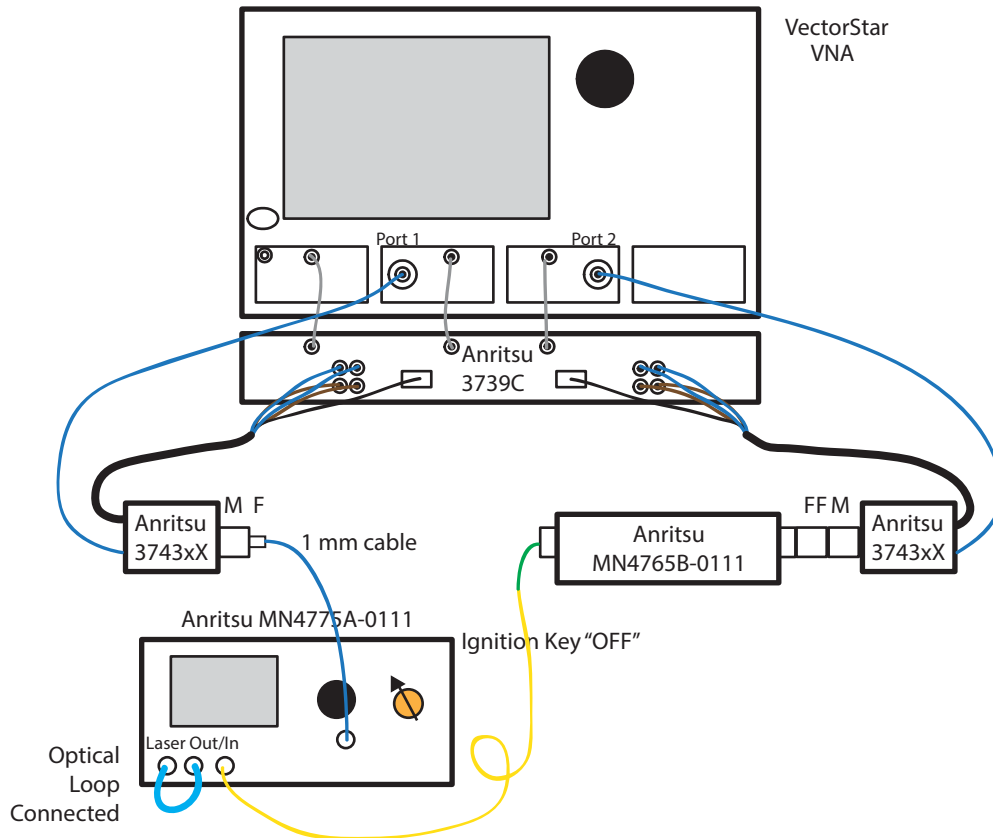

Figure 3-19. Optical Connection to MN4765B-0111
3. Connect **Yellow-colored** end of Optical Patch cable to MN4775A-0111 E/O Converter as shown in Figure 3-19.
4. Connect **Green-colored** end of Optical cable to MN4765B-0111 as shown in Figure 3-19.
5. Connect the VNA Port 1 to Anritsu MN4775A-0111 E/O Converter RF Input as shown in Figure 3-19.
6. Connect Anritsu MN4765B-0111 O/E Module Output to VNA Port 2 as shown in Figure 3-19.